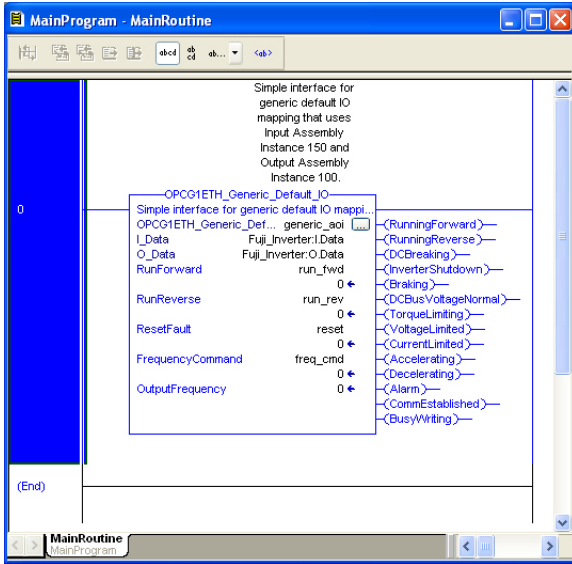

Figure 89: Configure Generic Default AOI
- 10) Edit the add-on instruction according to Figure 89.